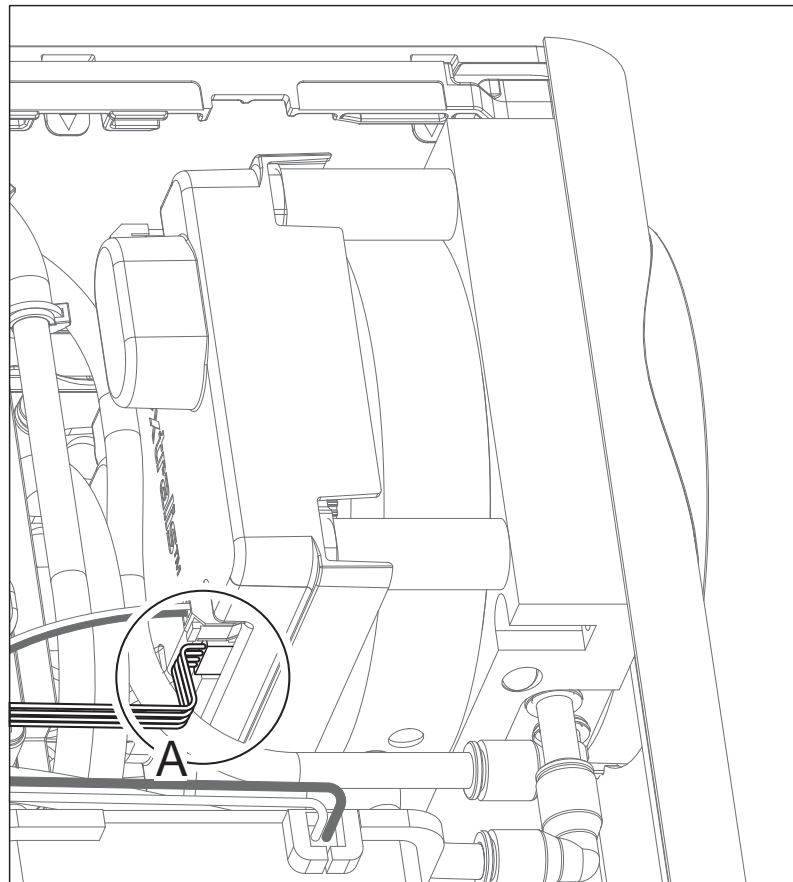

Figure 7-25: Disconnect data loom
4. Disconnect the 4 wire loom (A) from the Rotary Valve (Figure 7-25).